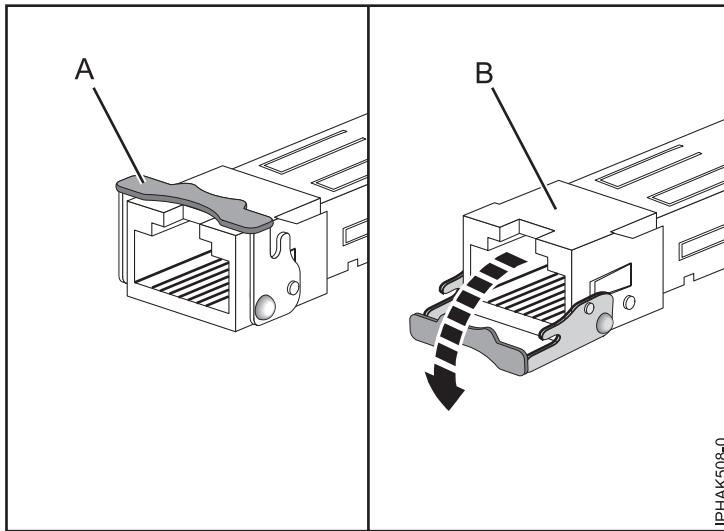

Figure 11. Removing SFP transceivers from adapters
a static-protective surface, open the latch (A) by rotating it down and away from the card as shown in Figure 11. Slide the transceiver (B) out of the adapter hardware. Repeat for the other transceiver.
Note: Some Ethernet or Fibre Channel adapter FRUs require the removal of the small form-factor pluggable (SFP) transceivers (if present) in order to remove the tailstock. With the card lying flat on a static-protective surface, open the latch (A) by rotating it down and away from the card as shown in Figure 11 on page 24. Slide the transceiver (B) out of the adapter hardware. Repeat for the other transceiver.